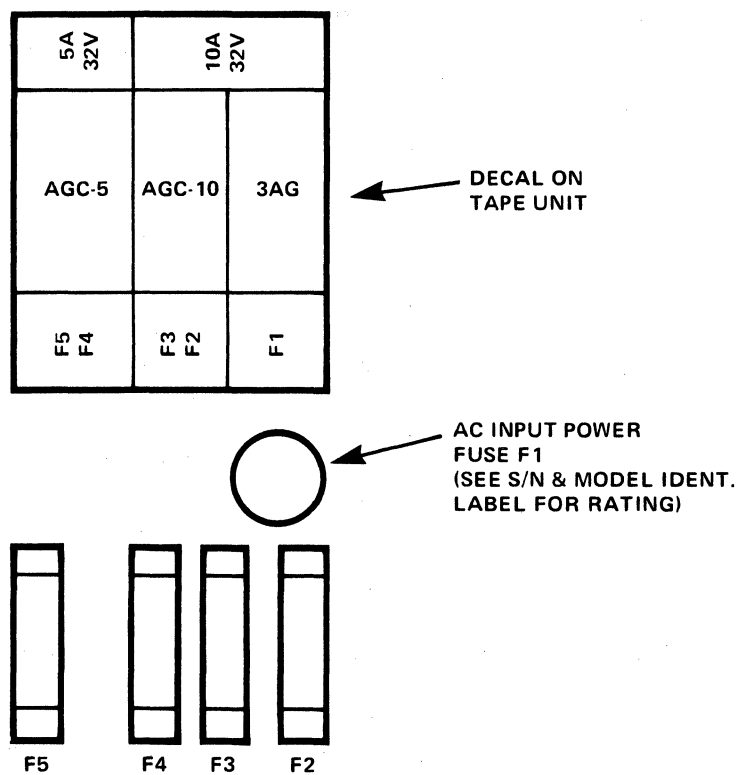

Figure 2-8. Tape Unit Fuses
- f. Check the five fuses located at the lower left corner on the back of the tape unit. These fuses are identified in figure 2-8.